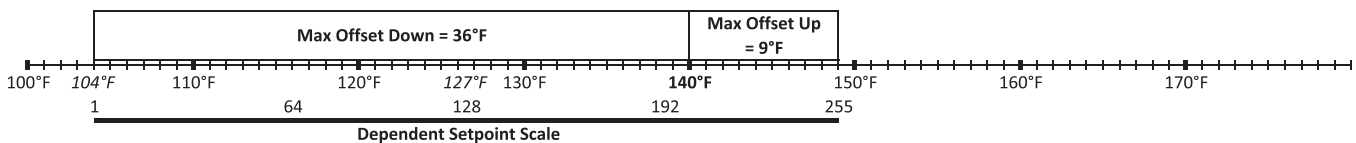

Figure 8.56: Dependent Setpoint
- f) Figure 8.56 illustrates the range defined by the **Max Offset Down** and **Max Offset Up** parameters.